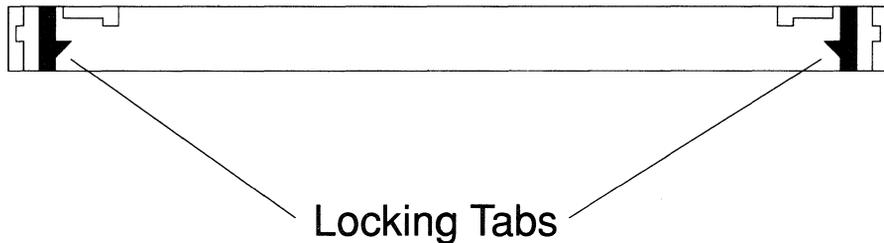

Figure 2-11. SIMM Socket Locking Tabs
- c. Use a small flat-blade screwdriver or similar instrument to release the locking tabs on each side of the SIMM socket (see Figure 2-11). Tilt the SIMM toward you and pull it out of the socket.